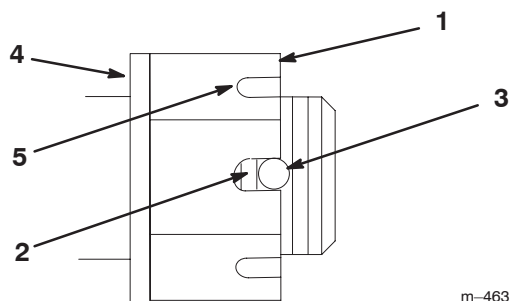

Figure 50
- Torque the slotted nut to 125 ft-lb (170 N·m) (Fig. 50).
Note: No more than 2 threads should be showing (Fig. 50).
- If more than 2 threads are showing, remove the nut and install a washer between the hub and nut (Fig. 50).
- Tighten the nut until the next set of slots line up with the hole in the shaft (Fig. 50).